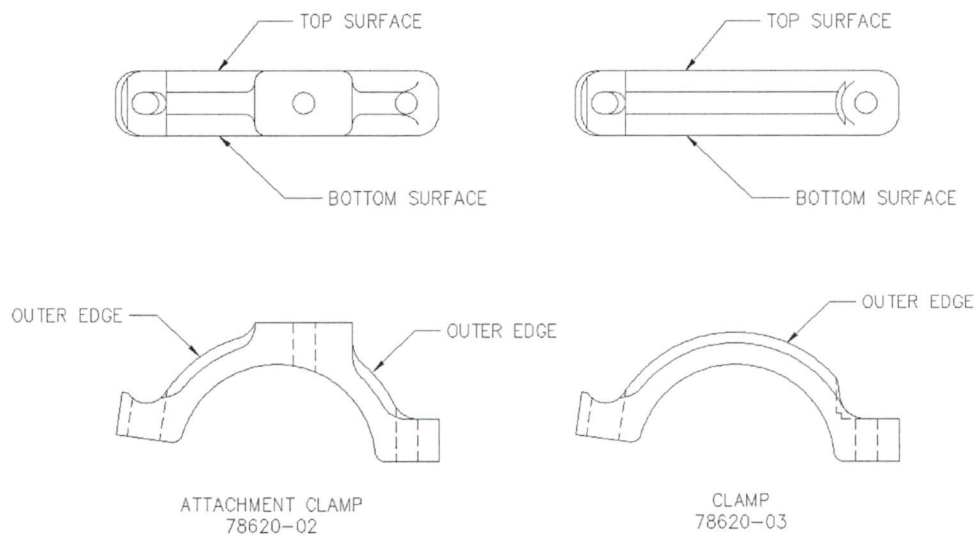

Figure 5.2 – Aluminum Clamps
- a) Nicks and/or gouges on the top or bottom surface up to 0.060" deep and 0.125" wide may be dressed out to a smooth contour. Refer to Figure 5.2.
- b) Nicks and/or gouges on the outer edge up to 0.030" deep and 0.125" wide may be dressed out to a smooth contour. Refer to Figure 5.2.